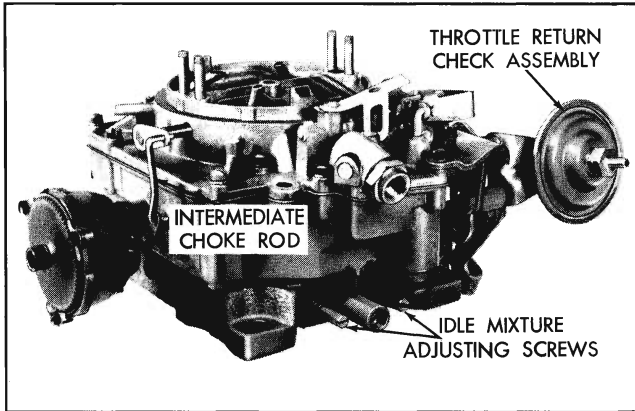

Fig. 6B-48 Rochester 4GC Carburetor
4. Remove clip from upper end of pump rod and remove rod (Fig. 6B-47).